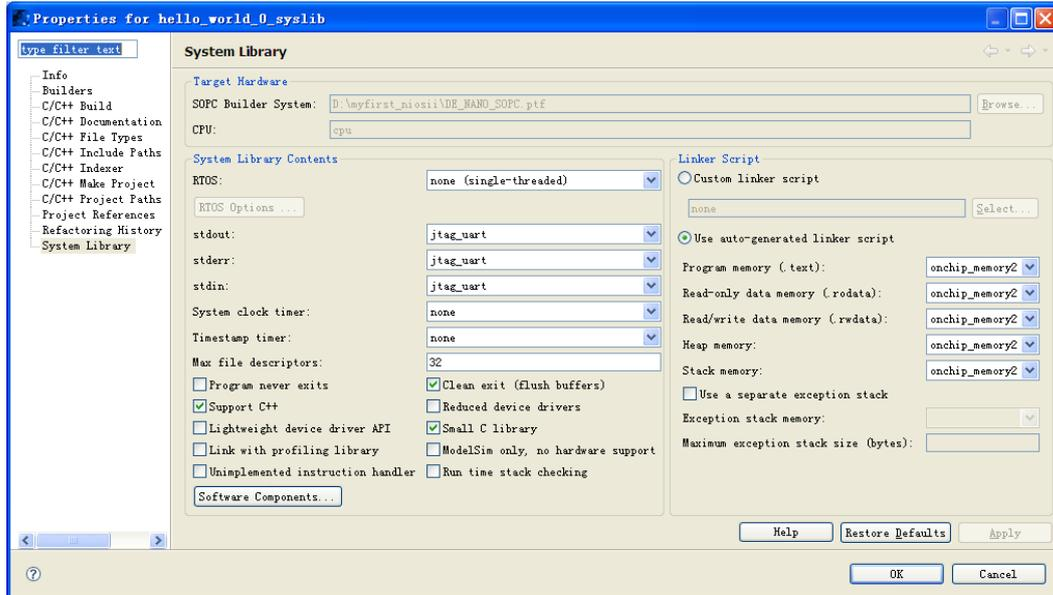

Figure 7-59 Configuring System Library Properties
3. In the **Linker Script** box, observe which memory has been assigned for **Program memory(.text)**, **Read-only data memory(.rodata)**, **Read/write data memory(.rwdata)**, **Heap memory**, and **Stack memory**, see Figure 7-59. These settings determine which memory is used to store the compiled executable program. You can also specify which interface you want to use for stdio , stdin, and stderr. You can also add and configure an RTOS for your application and configure build options to support C++, reduced device drivers, etc.
4. Select **onchip_memory2** for all the memory options in the **Linker Script** box, as shown in **Figure 7-59**.